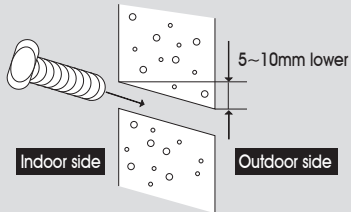

Figure 6
- Cut the Wall Sleeve to match the wall thickness and to pass the pipe through the hole. (Figure. 6)